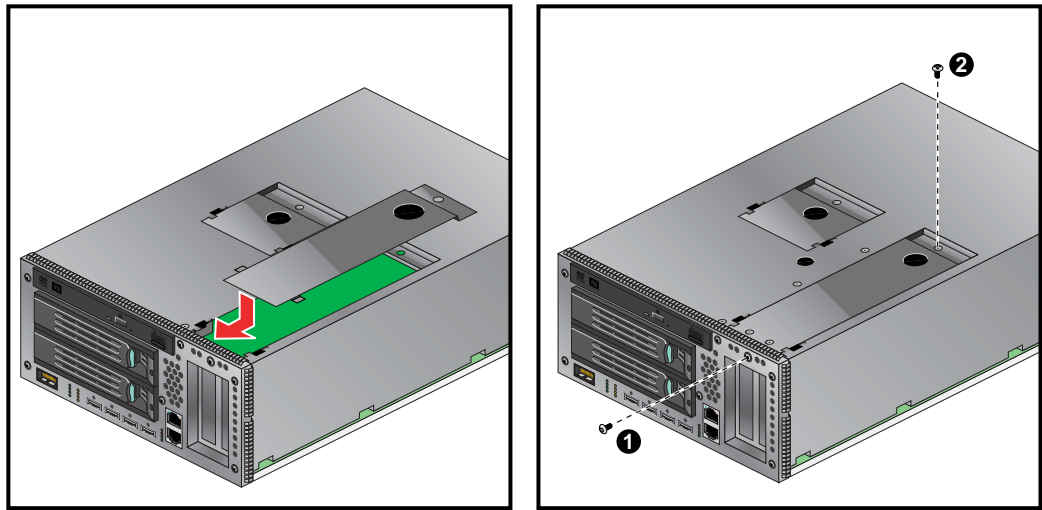

Figure 6-27 Replacing the IA Blade PCI Access Door
8. Replace the PCI card access door by installing it into the slotted opening and sliding it forward, as shown in Figure 6-27.